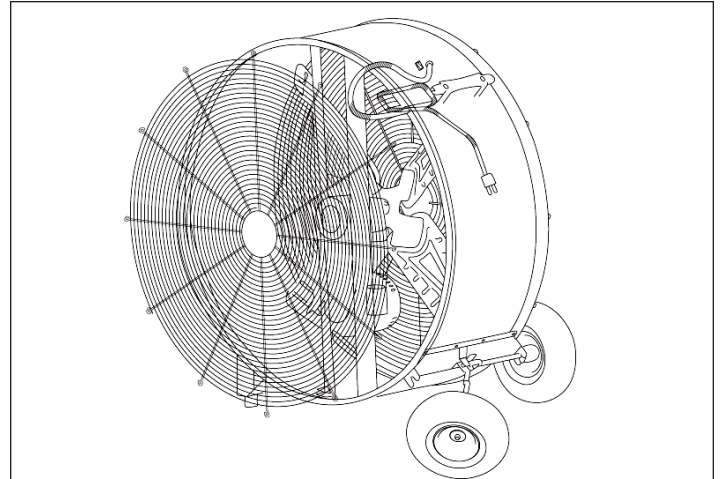

figure 1
1. Remove screws from Rear Guard and tilt wheel (figure 1).